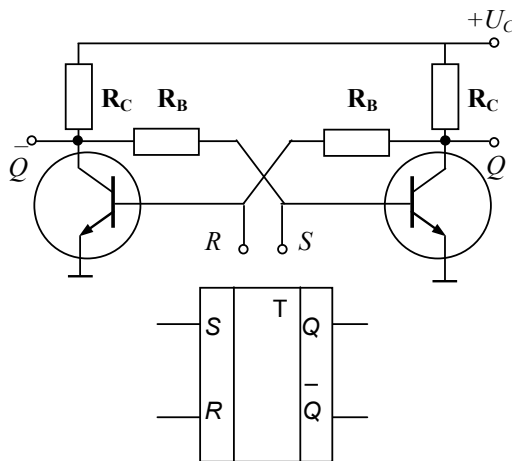

Fig. 2.48
**RS flip-flop.** Fig. 2.48 shows a pair of cross-coupled transistors operated as a latch. Each collector drives the opposite base through a resistors  $R_B$ . In a circuit like this, one transistor is saturated, and the other is cutoff. Depending on which transistor is saturated, the  $Q$  output is either low or high. To arrange a momentary pulse between any base and ground, the corresponding transistor closes, and the triggering process starts again. This is an *RS flip-flop*, a circuit that can set the  $Q$  point to high or reset it to low. Incidentally, a complementary (opposite) output is available from the collector to the other transistor. In a schematic symbol of an RS flip-flop, which latches in either of the two states, a high input  $S$  sets  $Q$  to high; a high input  $R$  resets  $Q$  to low. Output  $Q$  remains in a given state until the flip-flop is triggered into the opposite state.